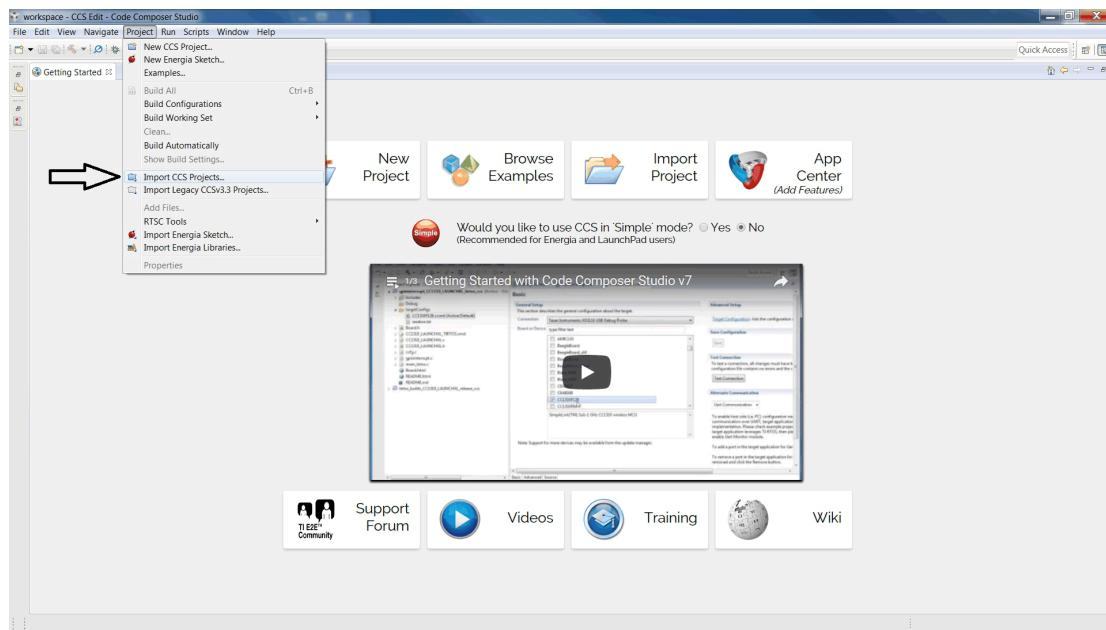

Figure 5. Import CCS Project
4. To import the project, click Project → Import CCS Project (see Figure 5).